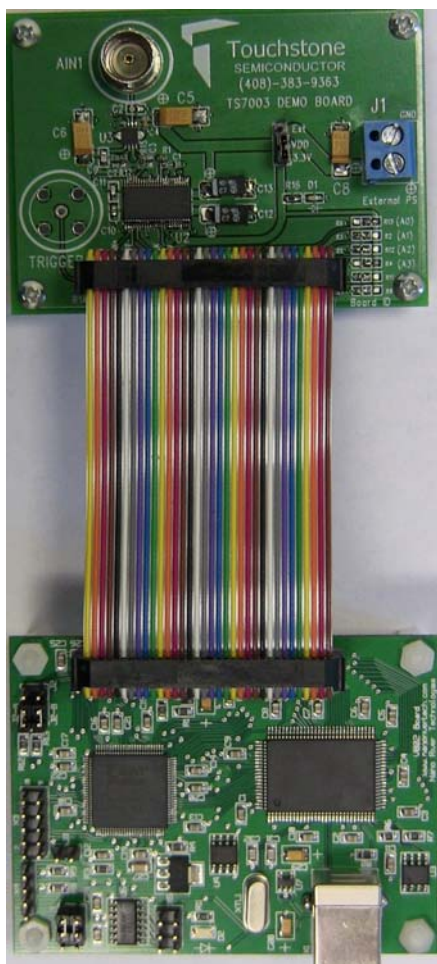

Figure 1. Sample ADC Evaluation Board (Top) with Nano River Tech ViperBoard (Bottom)
5. To test if the ViperBoard driver and the GUI have been installed correctly, connect the ADC demo board to the ViperBoard via the 34-pin ribbon cable (TS7003) or 34-pin socket. Refer to Figure 1. Then, connect one end of the USB cable to the USB connector of the ViperBoard and the other end to a USB port on the computer.